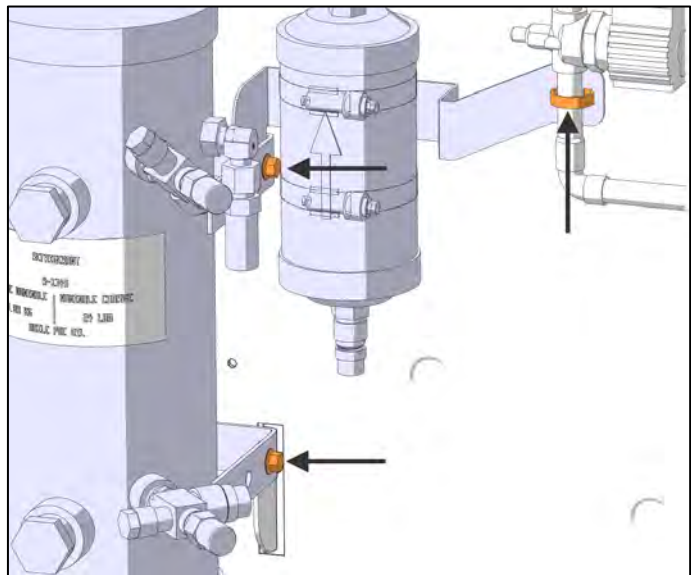

Figure 9: Receiver and filter dryer removal
13. Remove the fuel pro mounting bracket and clamp. (Figure 9)
17. Remove inlet A/C line at the top connection of the receiver tank. (Figure 9)
18. Remove piping between receiver tank and dryer filter. (Figure 9)